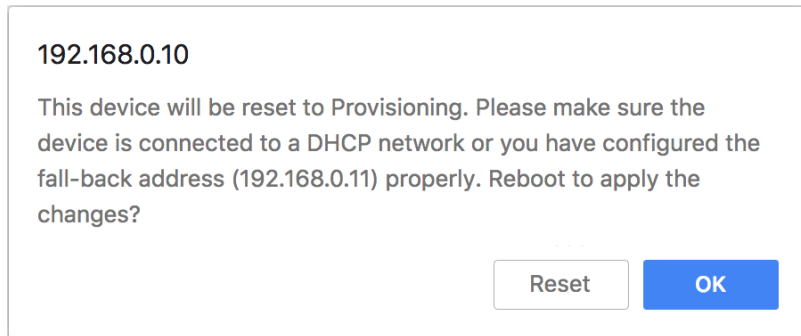

Figure 24. Unit reboot dialog (typical)
- The web browser will show the unit reboot dialog (Figure 24 \(page 46\)).